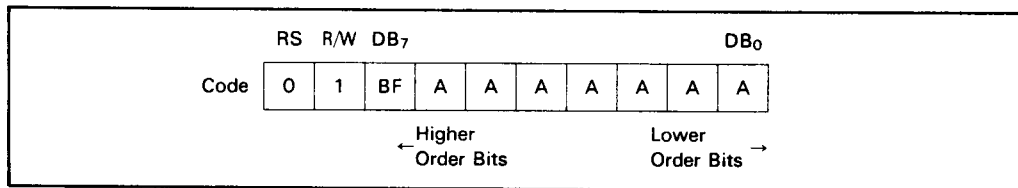

Figure 21 Read Busy Flag and Address Instruction
Read busy flag and address (figure 21) reads the busy flag (BF) that indicates the system is now internally operating on a previously